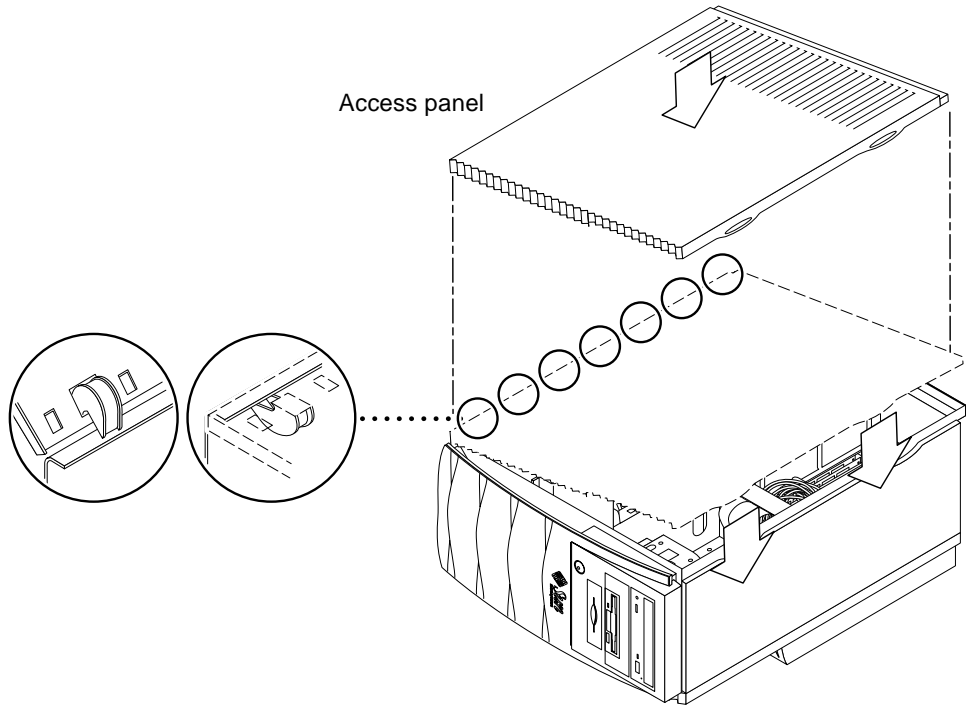

FIGURE 9-1 Replacing the Access Panel
2. **Hold the access panel, centering it over the chassis opening (FIGURE 9-1).**